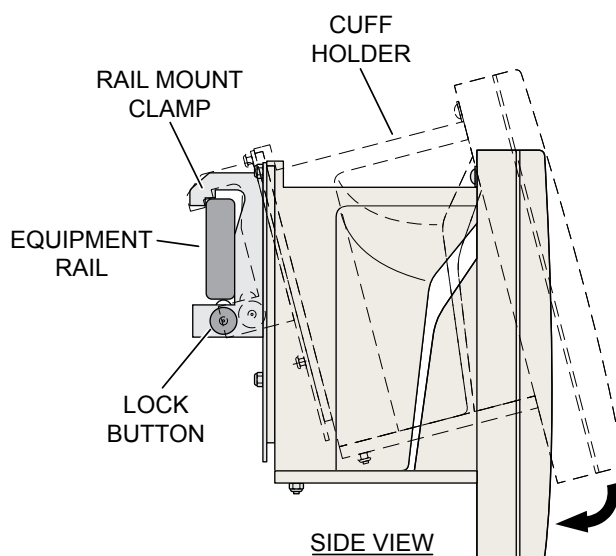

Figure 2. Attaching the Cuff Holder
2. Press the lock button and lower the cuff holder on to the rail (Figure 2).